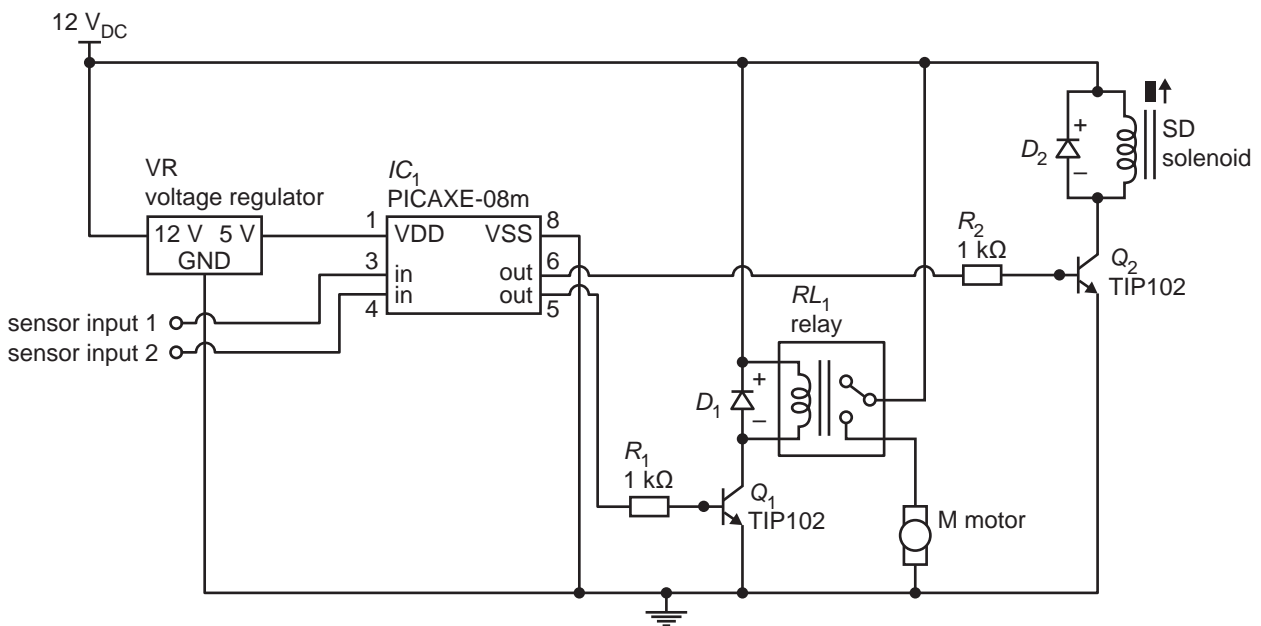
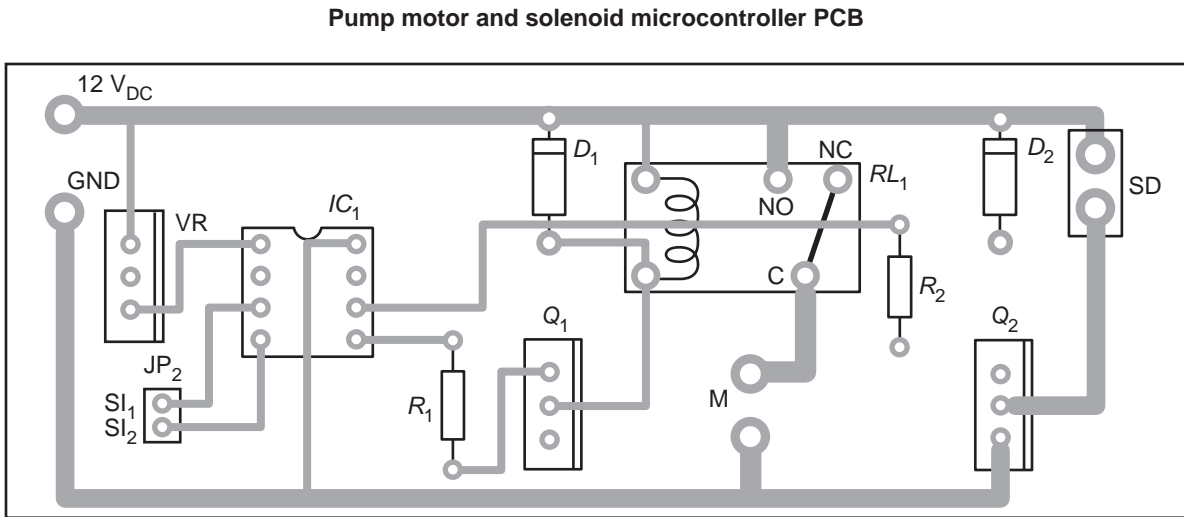

Figure 5
Figure 6
To improve the irrigation system described on page 22, the Integrated Technologies students at the school propose replacing the handheld hose system with an automated system to fill the tank and water the garden. They have designed the microprocessor circuit shown in Figure 5 to undertake both functions.
Figure 6 shows the printed circuit board (PCB) artwork that has been created based on the schematic diagram in Figure 5.
For ease of understanding, the PCB artwork tracks on Figure 6 are shown as viewed from the component side.
- b. On Figure 6, the PCB 12 V_{DC} and GND tracks are wider, with large ‘doughnut’ pad connection points for cable connections to the motor, M, and the solenoid, SD.
The diodes D_1 and D_2 on Figure 5 are routinely placed in a reverse bias connection across the relay and the solenoid.